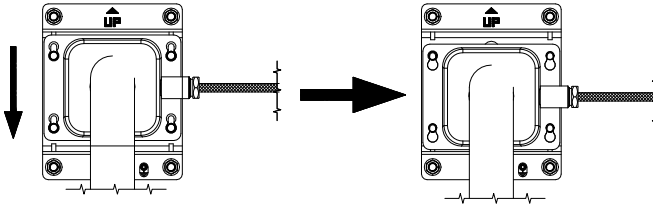

Figure 2-8 Install Bracket to Installation Plate
- 3) Hang the speed dome to the bracket by aligning the holes of bracket with the screws and move the speed dome downward to secure the speed dome as shown as Figure 2-8.